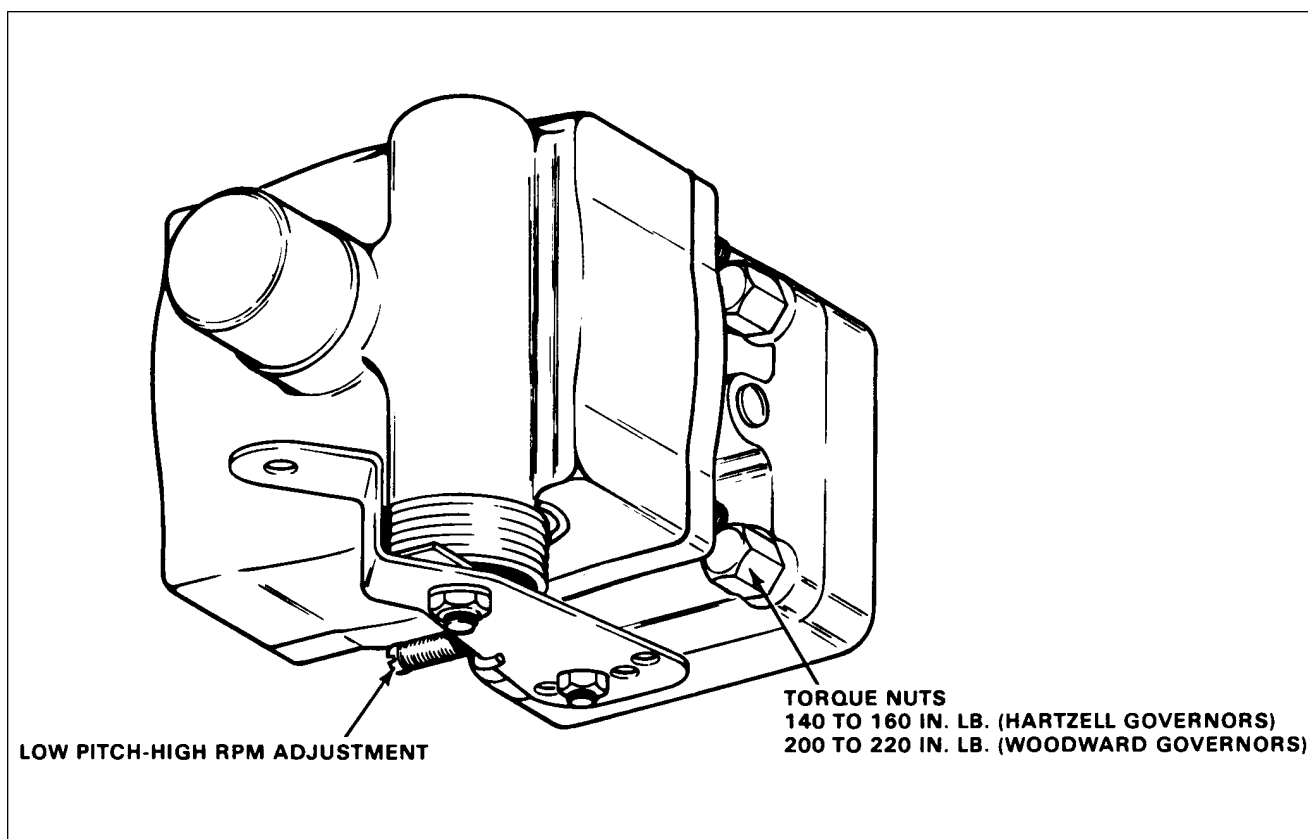

Figure 8-5. Propeller Governor
- d. Tighten the mounting bolts evenly and tighten to a final torque as shown in Figure 8-5.
8-16. RIGGING AND ADJUSTMENT OF PROPELLER GOVERNOR. (Refer to Figure 8-5.)